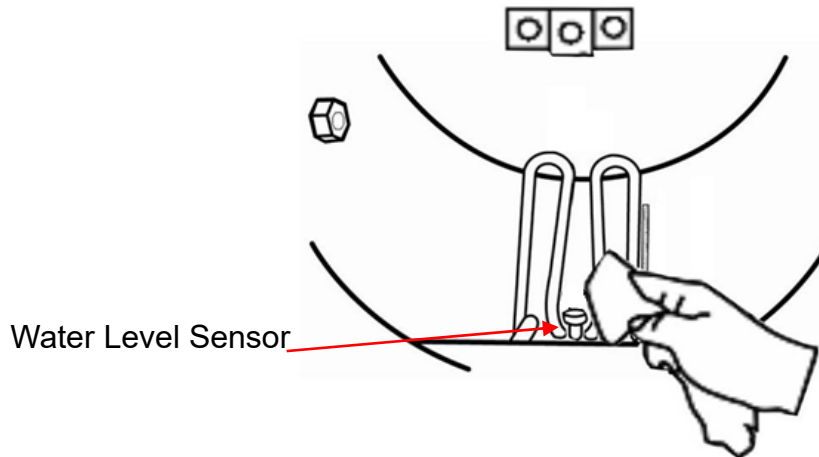

Figure 160
- Use the non-corrosive cleaner and stiff bristled brush or sponge to clean the water level sensor at the rear of the chamber as shown in Figure 160.